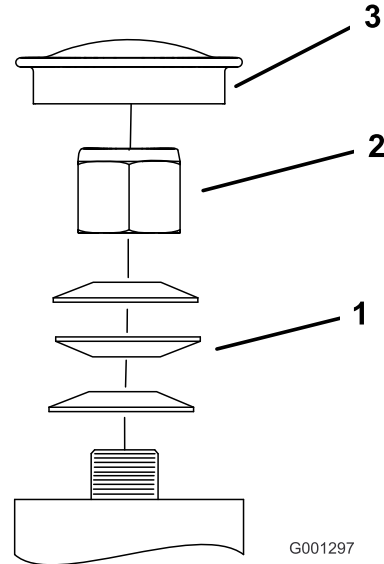

Figure 65
3. Remove the dust cap from caster and tighten the lock nut (Figure 65).
4. Tighten the locknut until the spring washers are flat, and then back off a 1/4 turn to properly set the preload on the bearings (Figure 65).
Important: Make sure that the spring washers are installed correctly as shown in Figure 65.
5. Install the dust cap (Figure 65).